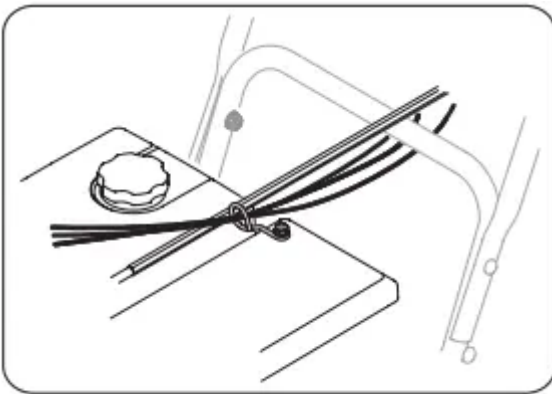

Figure 40
- Locate cable guide on top of engine and ensure cable(s) are properly routed through the cable guide. See Figure 40.